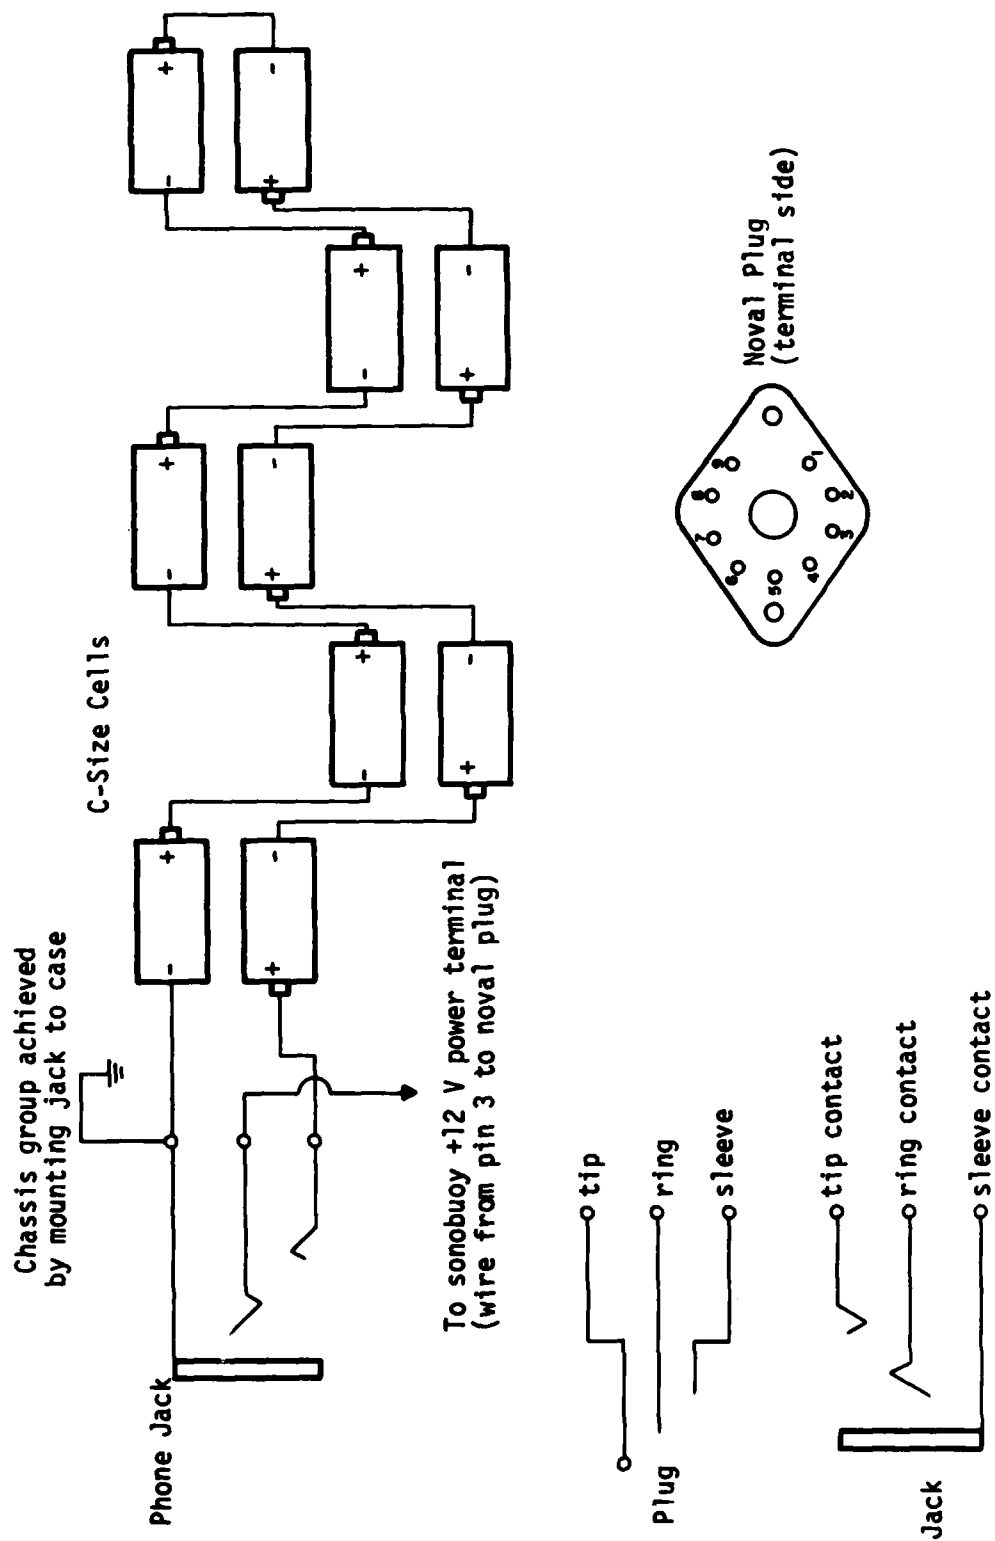

FIGURE 6
- h. Remove the wire from pin 3 of the noval plug and solder to the ring contact of the phone jack as shown in Fig. 6.
- i. Solder a piece of hookup wire from the tip contact of the phone jack to the first battery holder terminal. Series connect all the battery holders as shown in Fig. 6 using short pieces of hookup wire.
- m. Install batteries as shown in Fig. 6. Each 2-cell holder will have one battery facing each way.